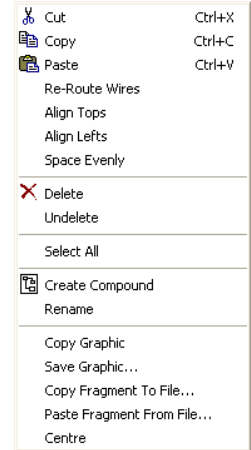
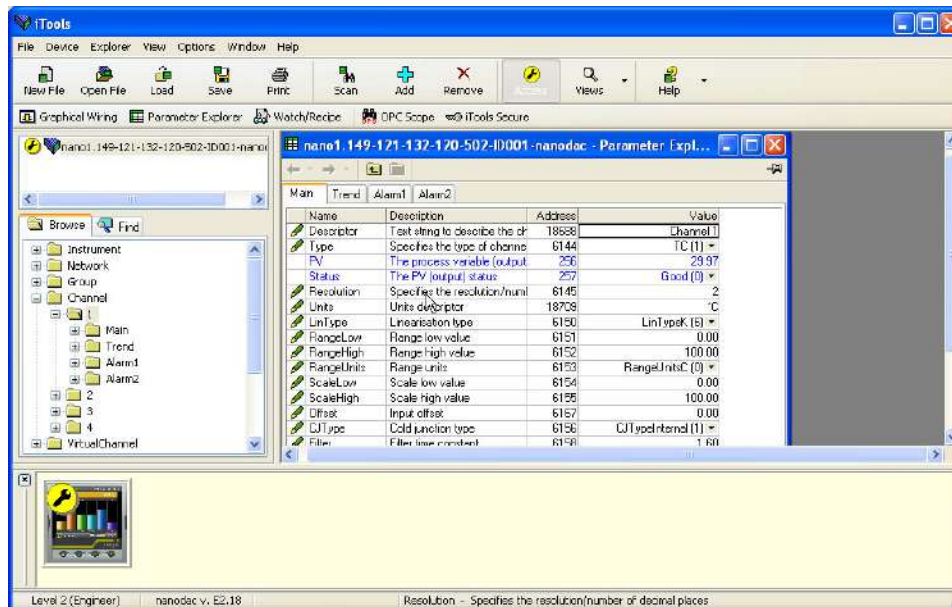

Figure 179 Diagram context menu
Figure 180 Parameter table example
In each case the function block parameters appear in the iTools window in tabular form, such as the example in Figure 180, below.
- Columns. The default explorer window (Figure 179) contains the columns 'Name', 'Description', 'Address', 'Value', and 'Wired From'. As can be seen from Figure 180, the columns to be displayed can be selected, to a certain extent, using either the 'Explorer' menu or the context menu.